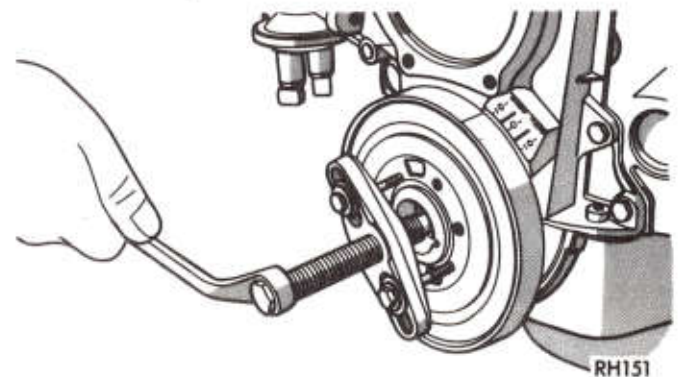

Fig. 23—Removing Vibration Damper Assembly
- (1) Drain cooling system.
- (2) Refer to Cooling System Group 7 for procedure to remove water pump.
- (3) Remove power steering pump.
- (4) Remove pulley from vibration damper and bolt and washer securing vibration damper on crankshaft.
- (5) Install bar from Tool (C-3688) and screw from Tool (C-3732A) and pull vibration damper from end of crankshaft (Fig. 23).
- (6) Remove fuel lines and fuel pump.
- (7) Loosen oil pan bolts and remove the front bolt at each side.
- (8) Remove chain case cover and gasket using extreme caution to avoid damaging oil pan gasket.
(1) Disconnect battery.
(2) Loosen and remove belts from crankshaft pulley.
(3) Remove radiator shroud retainer screws and set shroud back over engine.
(4) Remove fan and shroud from engine.
(5) Remove crankshaft pulley and vibration damper bolt and washer from end of crankshaft.
(6) Install bar from tool (C-3688) and screw from tool (C-3732A) and pull vibration damper from end of crankshaft. (Fig. 23).